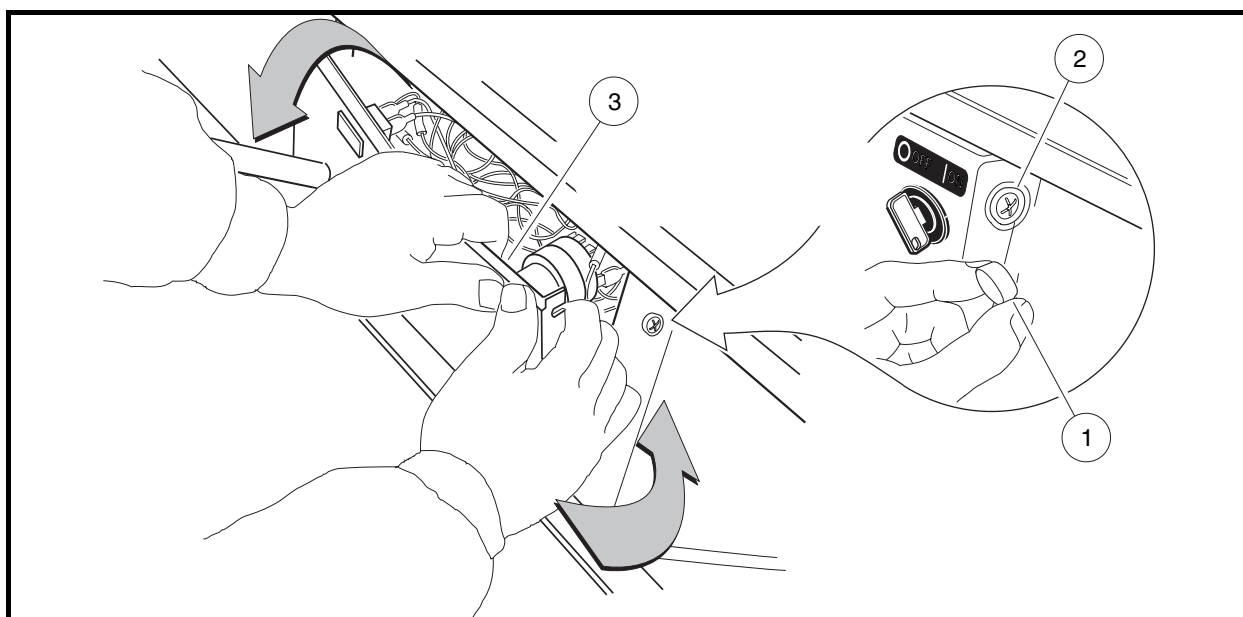

Figure 12-16 Center Dash Panel Removal
- 2.1. Remove the plastic cap (1) covering the mounting screw (2) on each side of the center dash panel (**Figure 12-16, Page 12-13**).